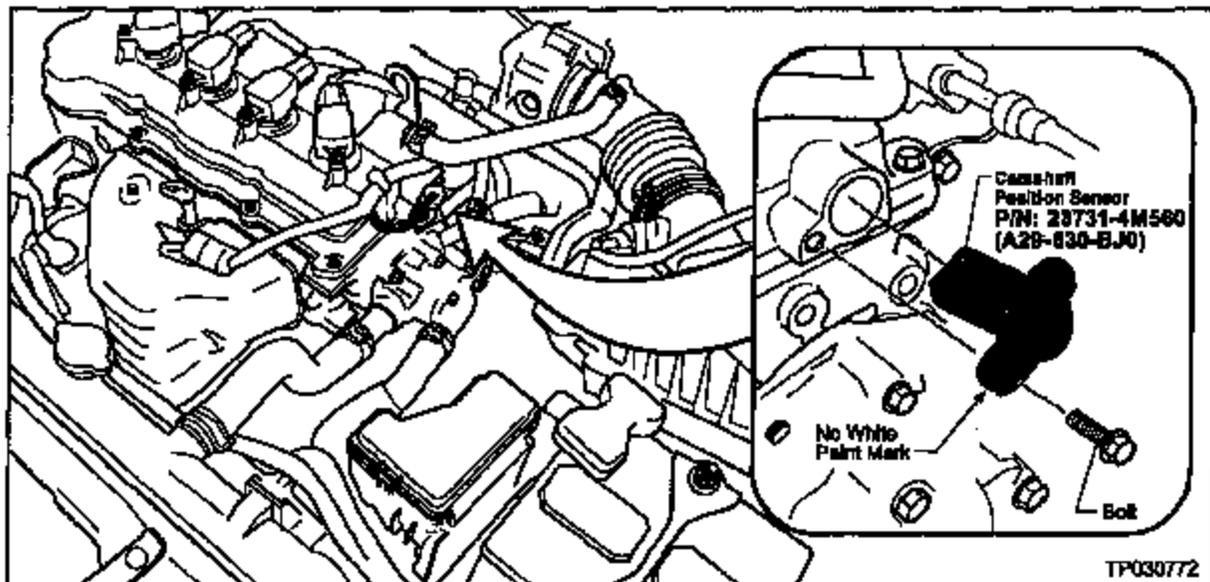

Figure 3
3. Locate the Camshaft Position Sensor (see Figure 3).